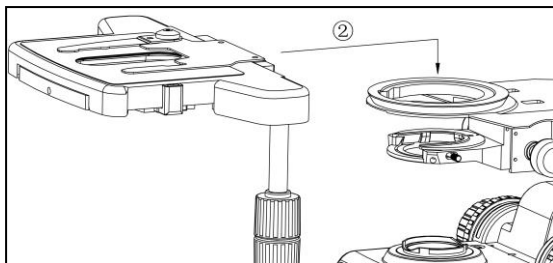
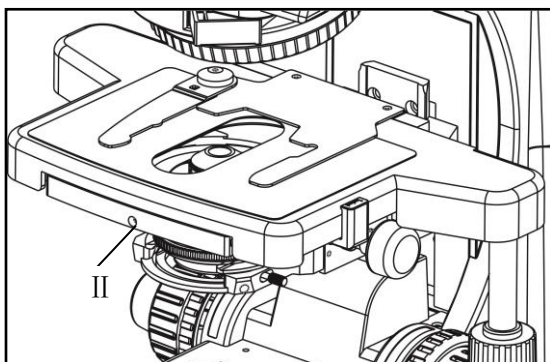

Fig 3
Fig 4
### 4-2-2 Install The Mechanical Object Stage (fig 3, fig 4)
- ◇ After placing the object stage steady, using the hex wrench screw the bolt, which shown as I in the figure 4, and the object stage will not waggle.